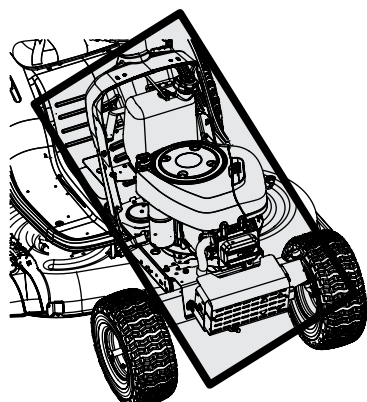

Figure 4-2
- Clean under the hood. Exhaust manifold, around fuses, all wiring and harnesses, muffler pipe, muffler shield, engine intake screens and cooling fins, etc. See Figure 4-2.